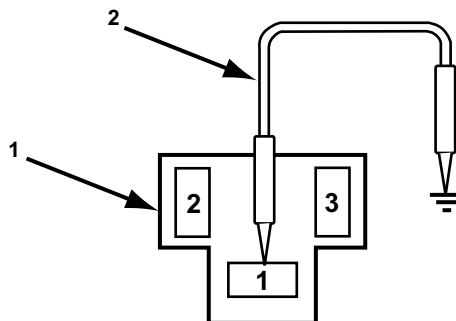

Figure 11-4 1994–2001 Sportage 3-pin ABS check connector
- Ground terminal 1 as shown in Figure 11-4 on page 122.